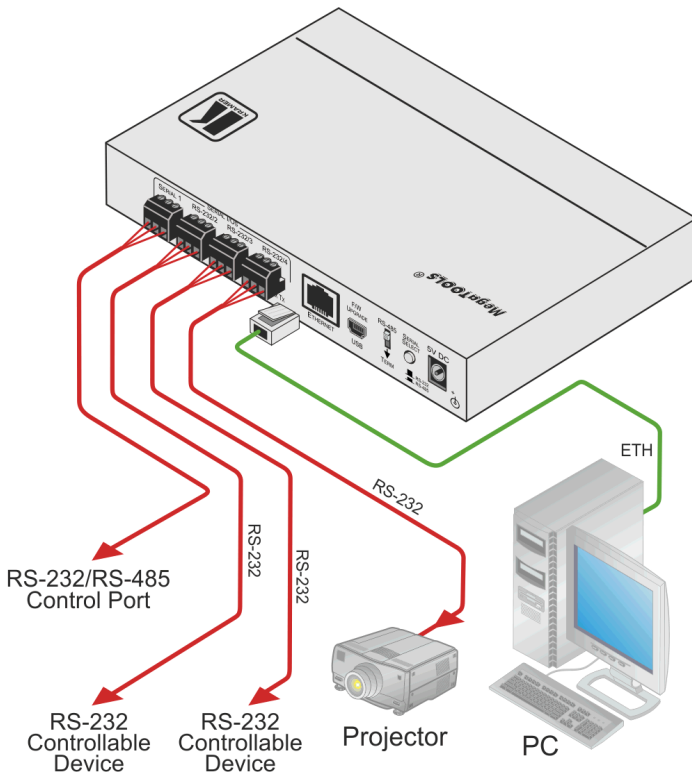

Figure 9: Connecting the FC-24ETH Ethernet Controller
To connect the **FC-24ETH** as illustrated in the example in Figure 9:
3. Connect the device to the power adapter and connect the power adapter to the mains electricity (not shown in Figure 9).